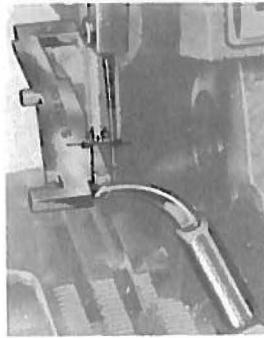

fig. 7
- The distance from the point of the secondary looper to the needle, when the looper has completed its stroke to the left, is  $5/32$  inch (fig. 7).